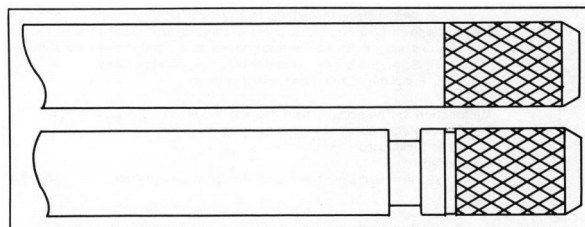

Fig. 12-7. Smith and Wesson ejector rods. Top: Old style; right-hand thread. Bottom: New style; left-hand threads.
B. Look at the end of the ejector rod closest to the muzzle. The knurled portion of the rod will determine which way the rod is threaded into the cylinder. If the knurling has no relief cut, the threading is right hand, if there is a relief cut, the threading is left hand (Fig. 12-7).